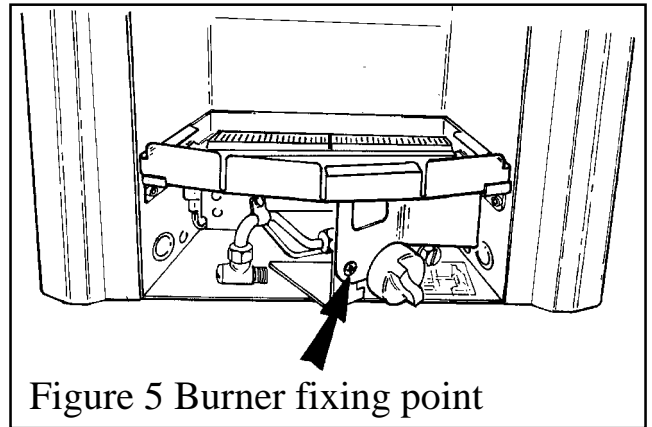

Figure 5 Burner fixing point
- The burner assembly is retained by one screw set in the front leg - See Figure 5. Remove the screw and carefully remove the burner assembly by lifting and sliding forward from the firebox. The burner is produced from a soft ceramic material and should be handled carefully.